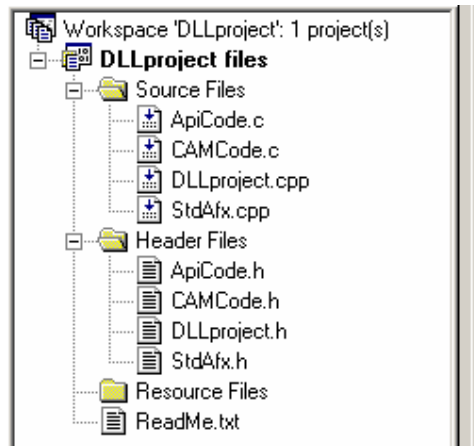

Figure 8: Workspace window
- In VC++ select the FileView tab in the workspace window on the left. Expand the directory tree to show the files. They should look like figure 8.